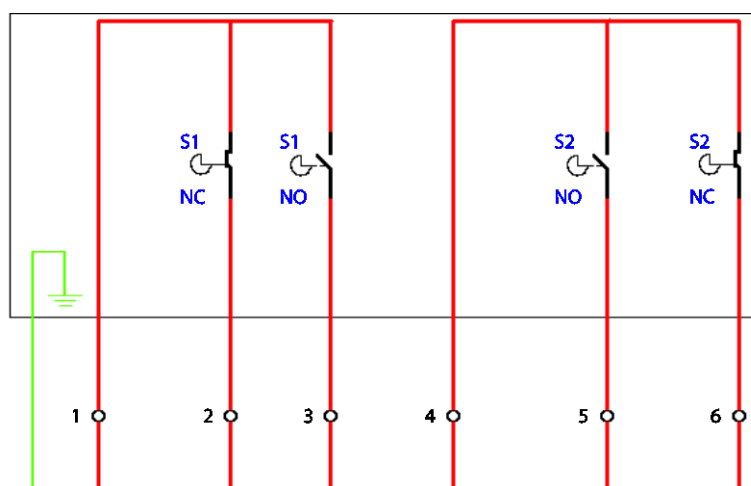

Figure 3.9.3.i End Switch Wiring Schematic
5. Wire the ESPU according to the Valve Proving the End Limit Switch will be required to provide. See the End Limit Switch wiring diagram in Figure 3.9.3.i
End Limit Switches are mounted on the end of bespoke valves (please contact Autoflame regarding bespoke valve manufacture) which are attached to the air and fuel valve and commissioned depending on the use of the End Limit Switches. An End Limit Switch comprises of two switches, as shown in Figure 3.9.3.i. Each comprises of an Earth and 6 connections to be wired as appropriate. The switches S1 and S2 are setup as per on site specification. These are then wired into both/or either of terminals 80 (the start position interlock) and 81 (purge interlock).